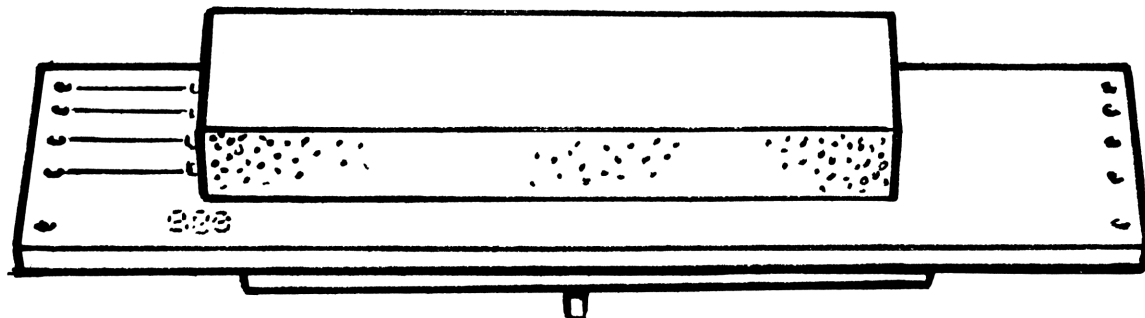

Figure 11
32. Refer to figure 11. . Replace miniature bridging circuit board after removing any remaining solder from the plated through contacts. []
33. Make sure the three (3) support posts on the bottom side of this board rest against the CPU/logic board. Check carefully that the timing component C4 does not interfere with the post in the vicinity of the B L U E lead wire soldered to the '41's P.C. board. []
34. If all three (3) support posts contact the CPU/logic board without interference solder all contacts to their corresponding support post/circuit pad on the bridging P.C. board. []